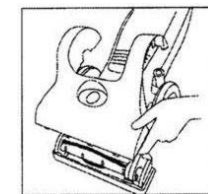

Fig. 9
- Use a Phillips screwdriver and remove the two screws from the back of the motorized power head cover. (Fig. 9)